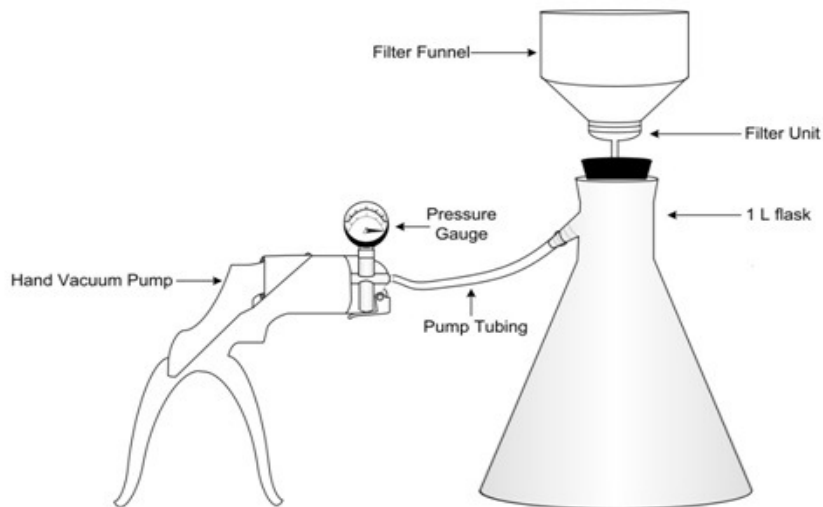

Figure 15. Filter apparatus set-up for particulates. Includes the hand vacuum pump attached to the filter flask and filter funnel/manifold
Use the water collected in a 4 L jug as described in step 5 of SOP C.1. Filter with vacuum pump and filter funnel to obtain a particulate sample on filter (Figure 15).
1. Rinse filter unit, filter screen and filter funnel (Figure 15) with DI water, making sure no particulates remain on the filter screen or funnel.
7. Attach the vacuum pump tubing to the filter flask (Figure 15).